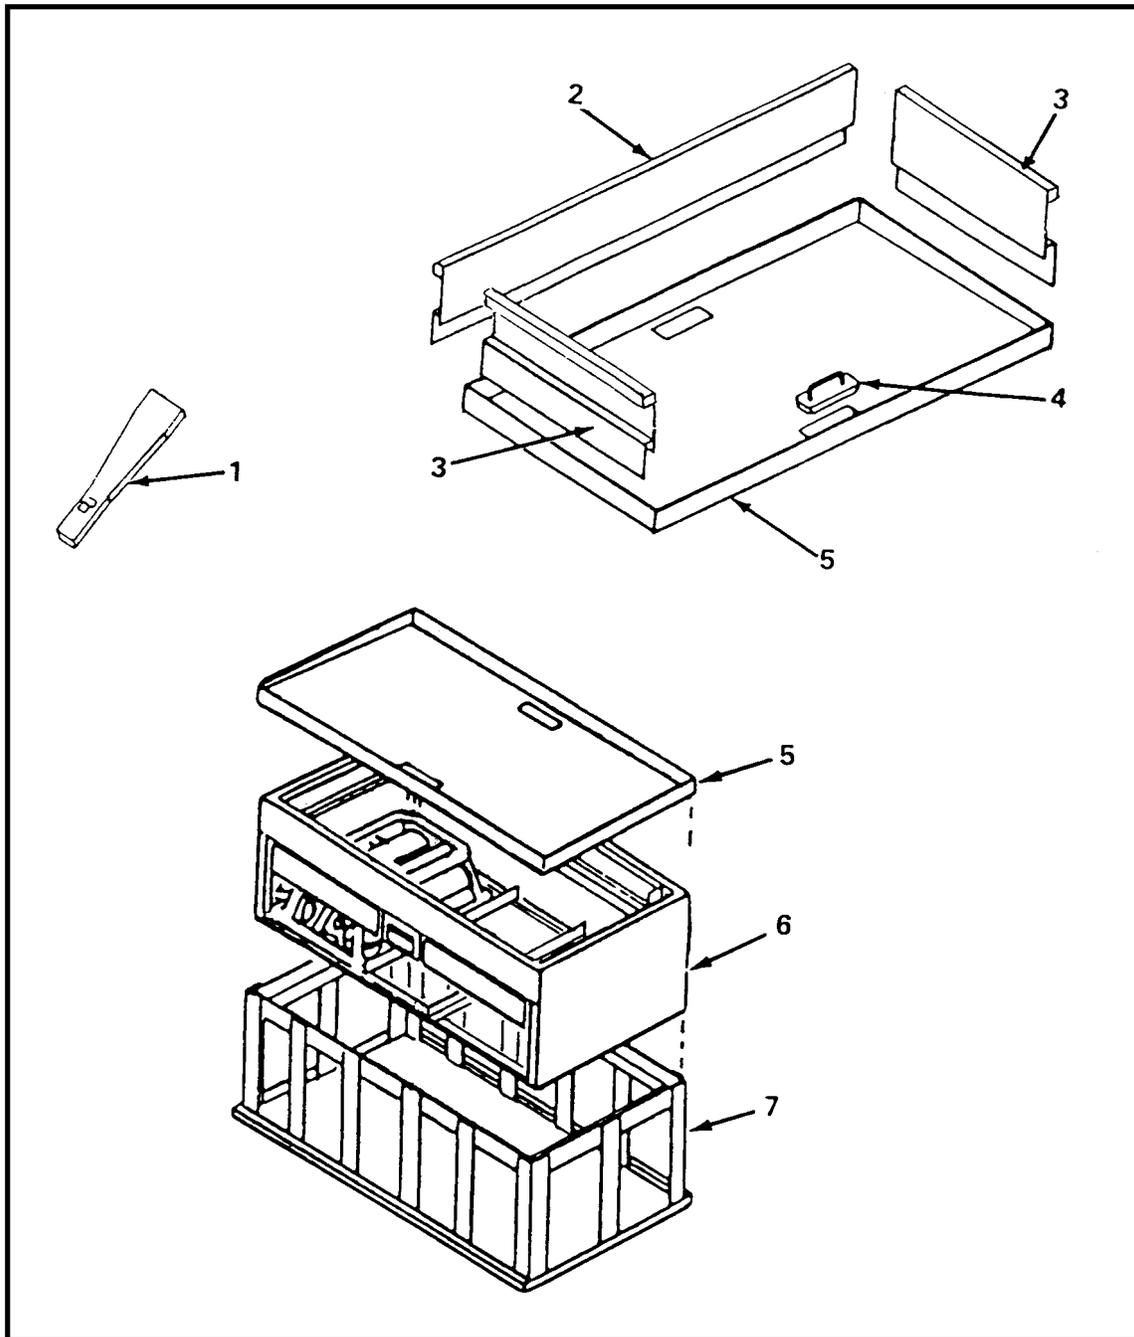

Figure 2-18. Modular griddle.
2. Disassemble the griddle. (See Figure 2-18.)
- a. Remove the grease chute (1).
- b. Remove the long splash guard (2).
- c. Remove the two short splash guards (3).
- d. Remove the grease slot plug (4).